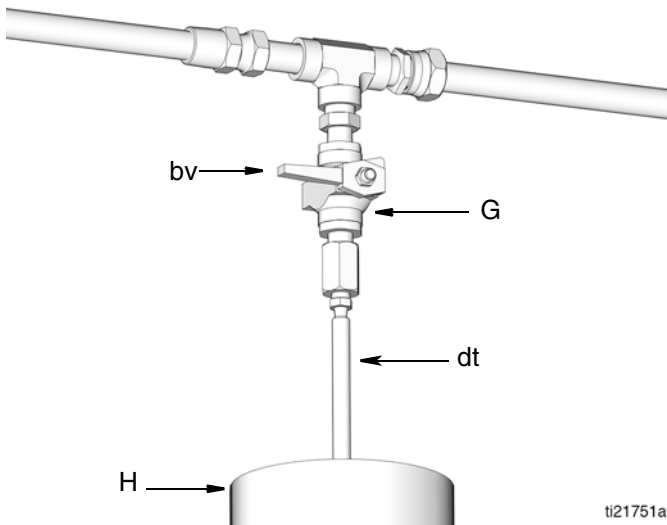

FIG. 16: In line installation shown
3. Turn off air supply to refilling pump (P).
4. Relieve pressure between the remote filling station pump (P) and the Auto-Fill Shut Off (S):
- a. Open ball valve (bv) (FIG. 16). Pressure will be released and excess fluid will drain out of the drain tube (dt) and into the lubrication collection container (N).